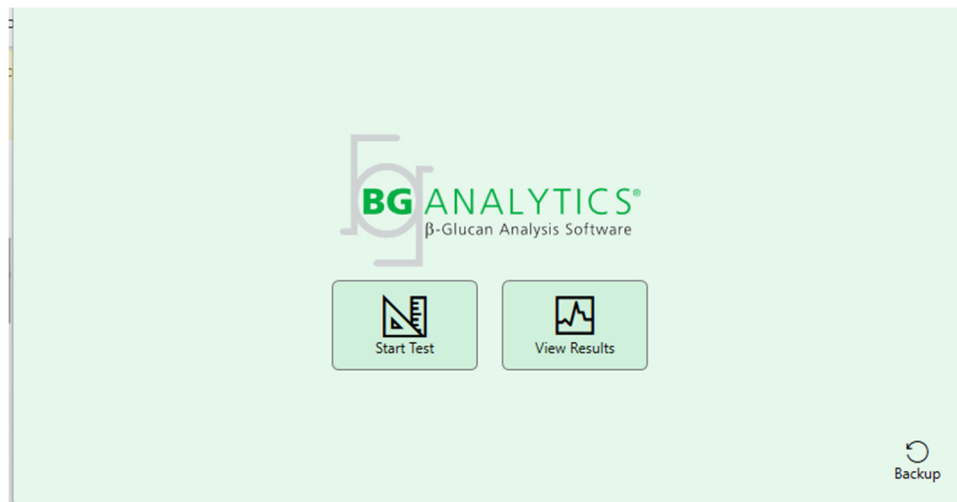

Figure 4. BG Analytics® Home Screen
- The **Home** screen appears as shown in Figure 4.